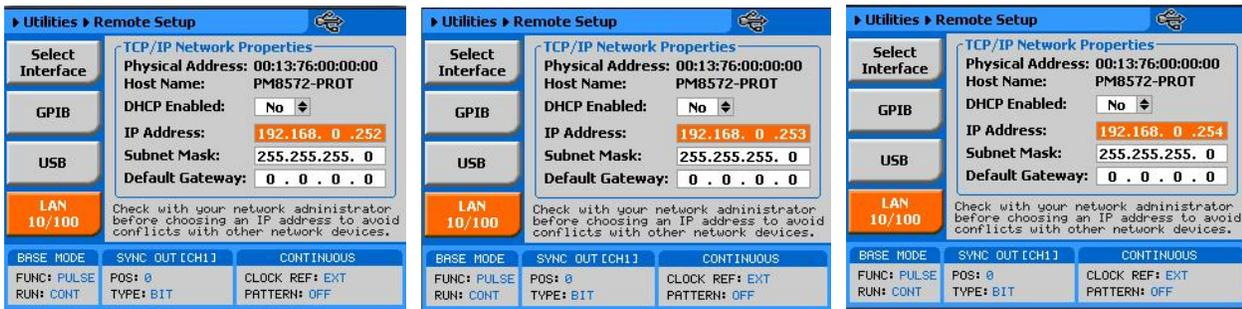

Figure 4-30, IP Address Setup Example (from left to right) Master and two Slaves
4. Turn on the instruments and set all of them up to operate from a LAN interface. Information how to set up the PM8572A to operate from a LAN interface is given in Chapter 2. An example of mater and slave IP address setting is shown in Figure 4-30. The master was assigned the highest IP address ...252 and the two slaves were assigned ...246 and ...245, respectively.